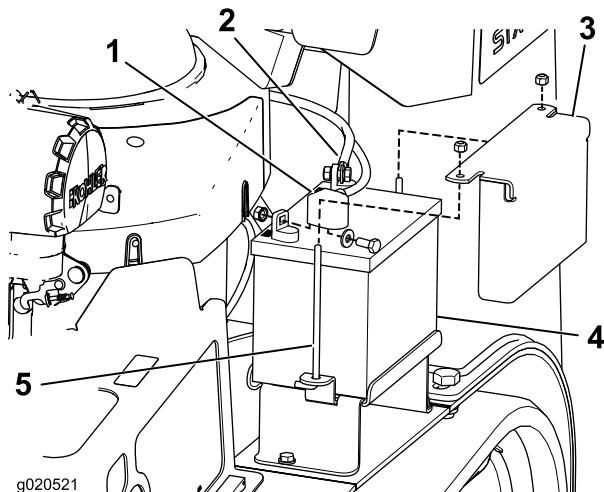

Figure 42
3. Lift the black rubber cover on the negative cable. Disconnect the negative battery cable from the negative (-) battery terminal (Figure 42).
1. Place the battery onto the machine (Figure 42).
3. First, install the positive (red) battery cable to positive (+) battery terminal with a nut, washer and bolt (Figure 42). Slide the rubber cover over the post.
4. Then install the negative battery cable and ground wire to the negative (-) battery terminal with a nut, washer and bolt (Figure 42). Slide the rubber cover over the post.